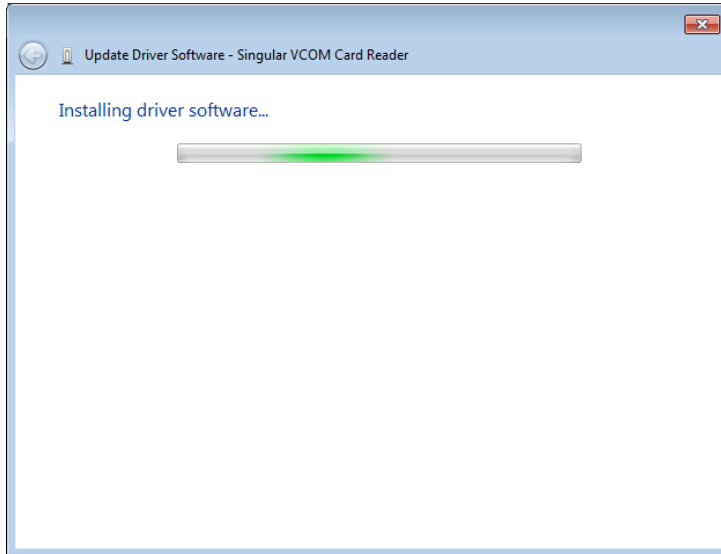

Figure 5-19: Installing Driver Window
Step 4: The following window (**Figure 5-19**) appears as the driver is installed.